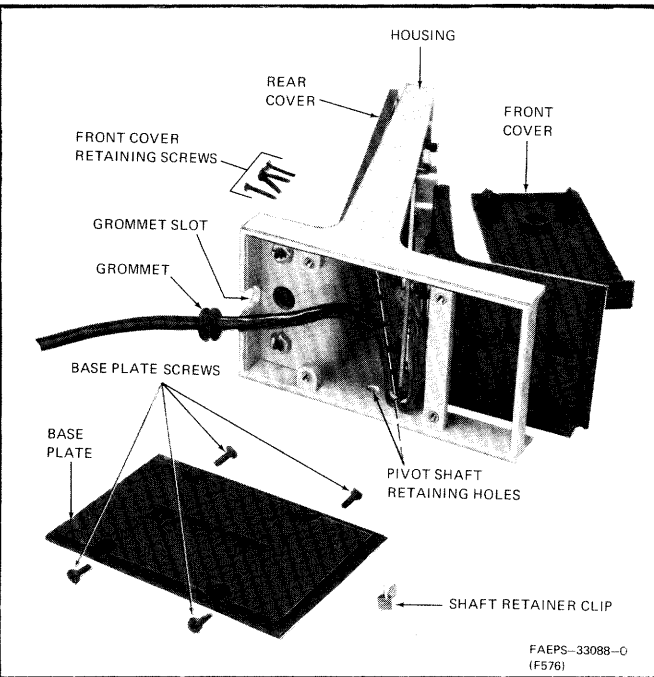

Figure 3. Microphone Assembly Detail
Step 4. Remove the cord grommet from the U-shaped slot. (See Figure 3).